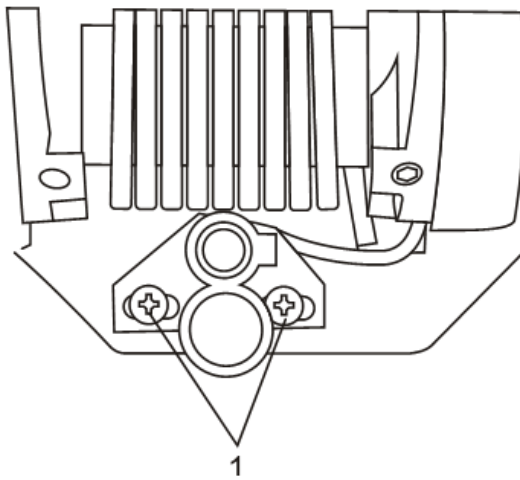

Fig. 26
To adjust the laser line, use a #2 \oplus screwdriver (not included) to loosen the two laser mounting screws (1) (Fig. 26). Slide the laser bracket to the left or right until the laser beam just clears the right hand side of the blade and is completely on the "good piece". This will align the blade so it will cut the workpiece on the left hand side of the laser beam. Tighten the two laser mounting screws and make another test cut to verify the laser alignment.